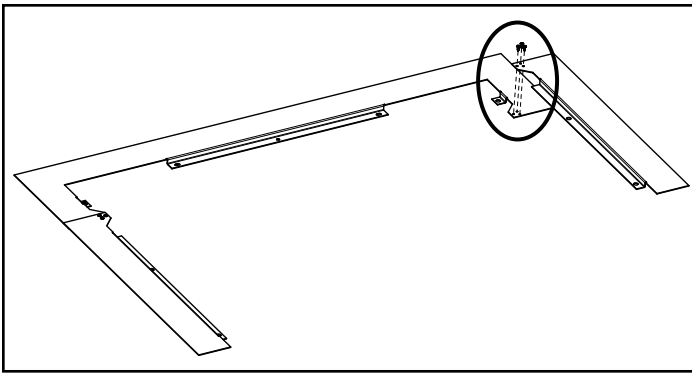

Figure 5.15
3. Repeat steps 1 and 2 for Surround Extension LH Side (**Figure 5.15**).